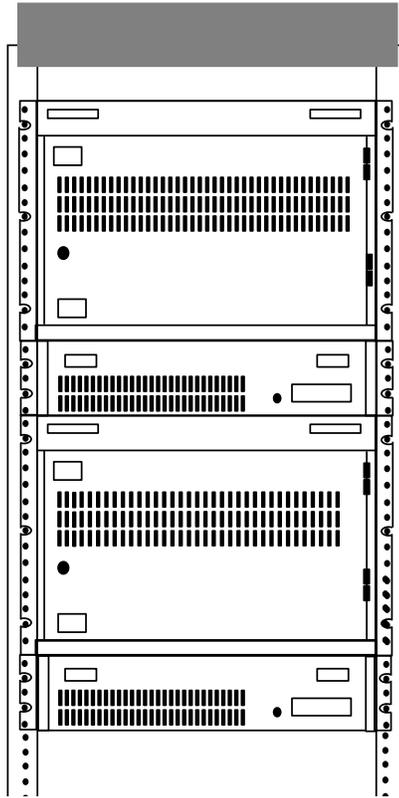

Figure 2-4. MAP/100C Units in a 5ESS Cabinet, Front View
2. Locate the left and right mounting ear brackets (A10039 and A10038) and attach them to the side plate of the unit as shown in Figure 2-4.
The 5ESS frame can hold one or two units, depending on the type of application (Figure 2-4).
4. Locate and attach the left and right mounting ear brackets (A10036-A and A10037-A) to the side plate of the unit (Figure 2-4).